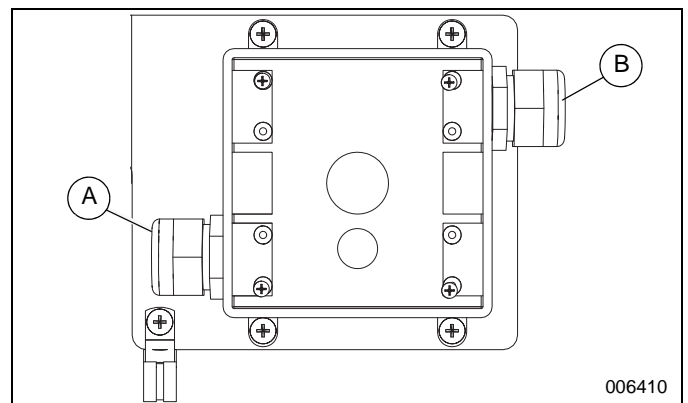

Figure 14. Cable Installation
9. See Figure 14. Install coil-cord through lower strain relief (A). Verify enough wire is in junction box to connect to WAGO connectors, then tighten strain relief.